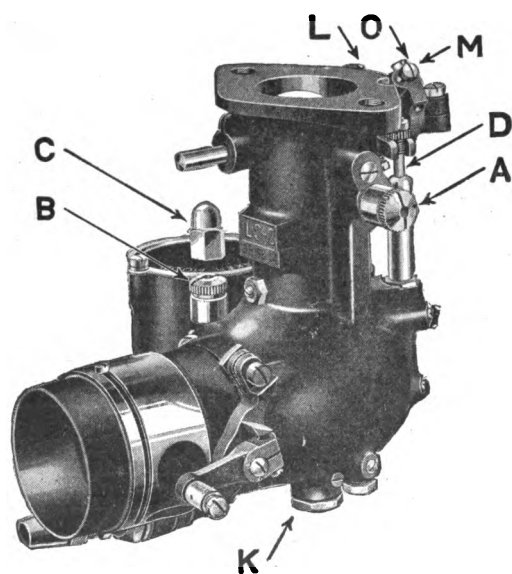

Fig. 85a. Stromberg Carburetor, Model "LS"
*Model "LS."* A sectional view of the Stromberg Model "LS" carburetor is shown in Fig. 85a. It is of the plain-tube type because, having no air valve or metering needles, both the air passage and the gasoline jet are of fixed size for all engine speeds. It has several